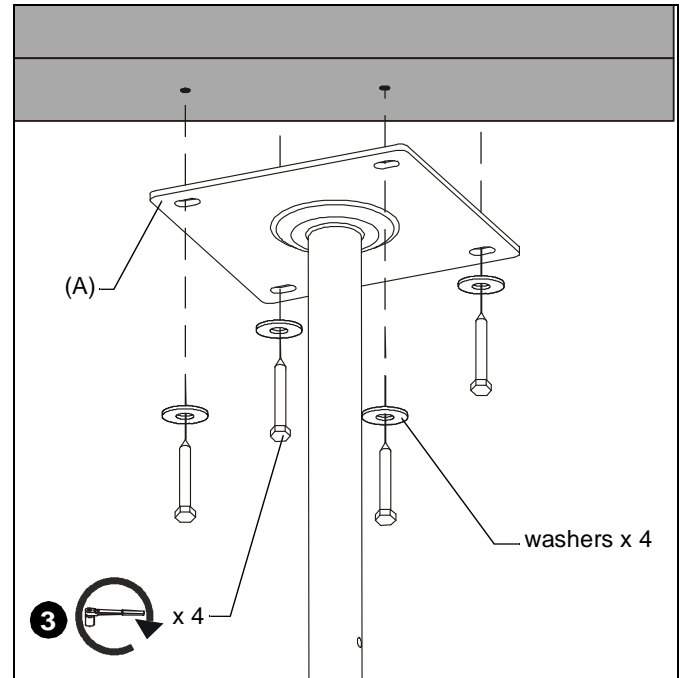
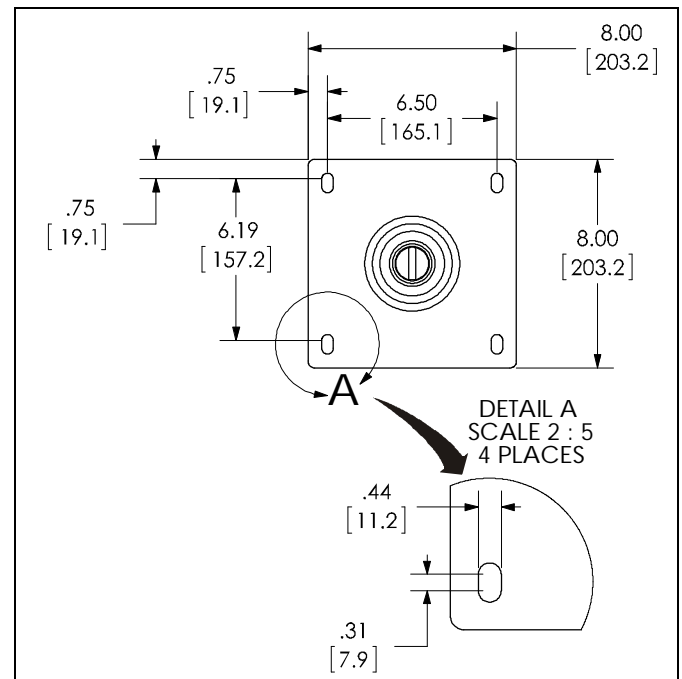

Figure 2
Figure 3
3. Install and tighten four 5/16" x 2-1/2" (minimum) lag screws (not included) through 5/16" washers (not included) plate and post assembly (A), into wood stud cross bracing. (See Figure 2) (See Figure 3) for dimensions details.
1. Using plate and post assembly (A) as a template, mark locations of four pilot holes on ceiling.
3. Install four UX10 or AF8 anchors (not provided) to secure into solid concrete ceiling. (See Figure 3) for dimensions details.